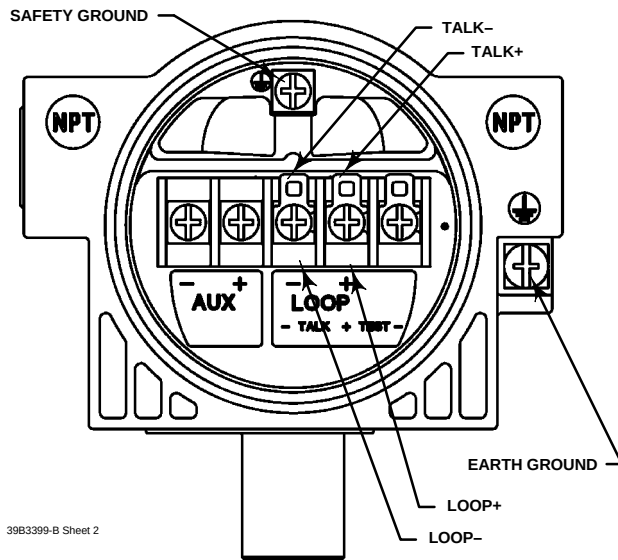

Figure 2-20. FIELDVUE DVC6000 SIS Digital Valve Controller Terminal Box
1. Remove the terminal box cap (key 4) from the terminal box (key 3).
3. Refer to figure 2-20. Connect the control system output card positive wire "current output" to the LOOP + screw terminal in the terminal box. Connect the control system output card negative (or return) wire to the LOOP – screw terminal.
4. As shown in figure 2-20, two ground terminals are available for connecting a safety ground, earth ground, or drain wire. These ground terminals are electrically identical. Make connections to these terminals following national and local codes and plant standards.